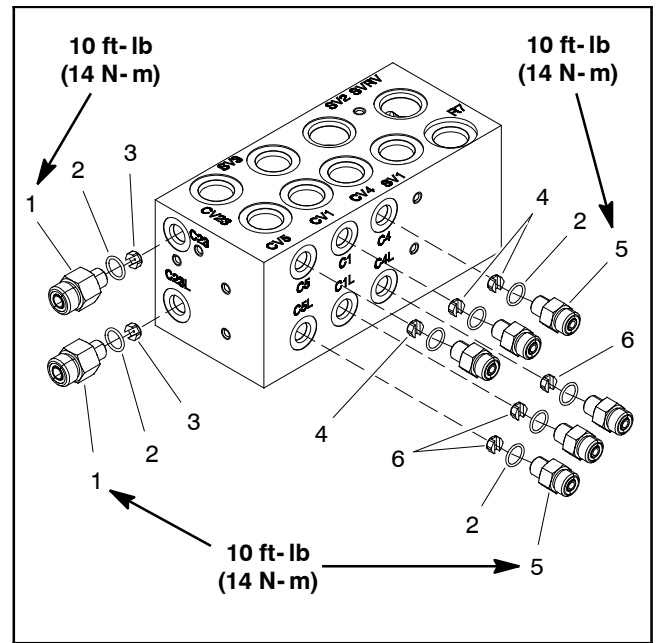

Figure 72
IMPORTANT: A flow control orifice is placed beneath several of the hydraulic fittings on the lift control manifold (Fig. 72). The lift manifold uses three (3) different orifice sizes. If a fitting is removed from the lift control manifold and an orifice is in the manifold port, make sure to remove orifice and label its position for assembly purposes.
IMPORTANT: When installing orifice in manifold (Fig. 72), make sure that orifice is flat in the base of the fitting cavity. Manifold damage is possible if the orifice is cocked in the cavity.